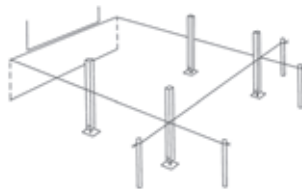

Fig 7 Cut posts to required height of handrails.
■ Your posts should be cut to length, whilst taking into account the desired finished handrail height of your deck (Fig 7). Note that some posts may be concealed underneath the finished deck.